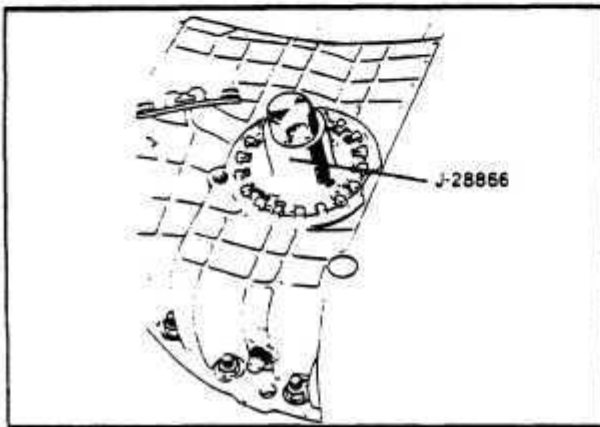

Fig. 24 DIFFERENTIAL ADJUSTING NUT TOOL
7. Unscrew the adjusting nut using tool J28866. COUNT THE NUMBER OF TURNS REQUIRED TO DISENGAGE THE THREADS. *Fig. 24*